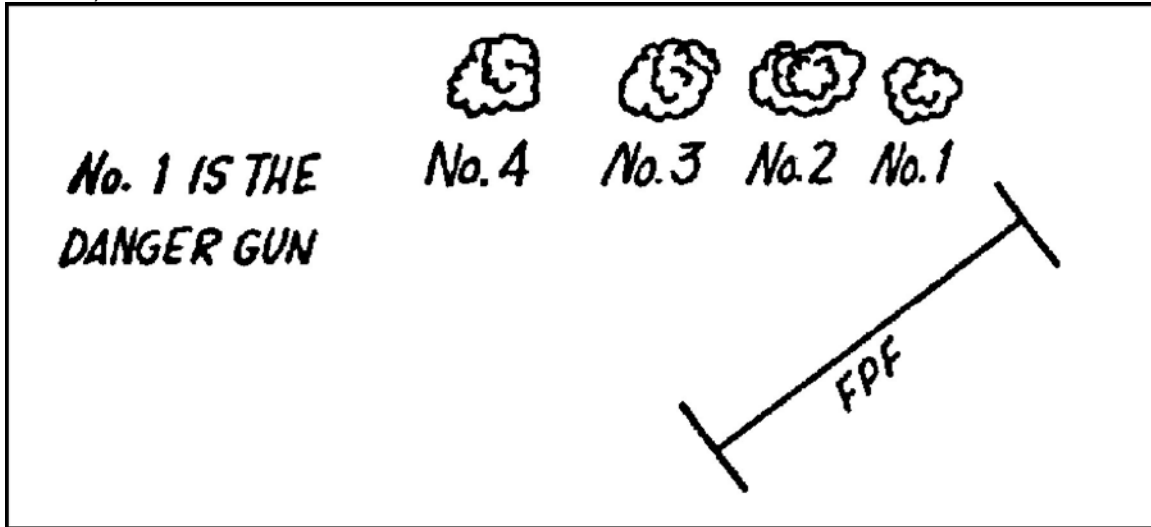

Figure 2. Determination of danger gun.
- b. Upon receiving the initial fire command, the entire section fires one round of high explosive (HE) with delay fuze.
- c. The FO observes the impact of the four rounds and determines which mortar's round impacted closest to the FPF line or to friendly forces. This mortar is referred to as the danger gun (Figure 2).